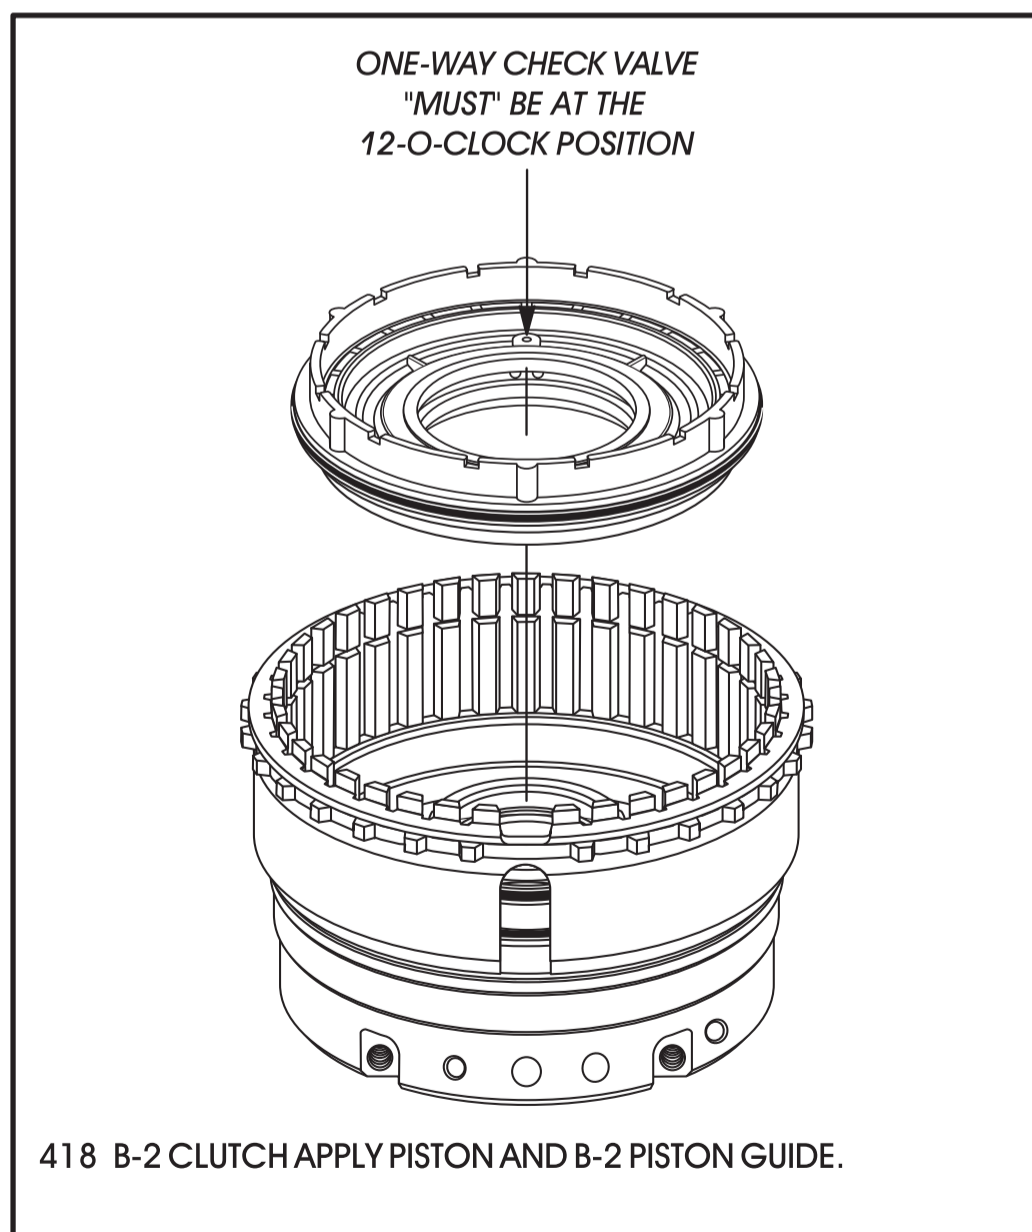

Figure 160
18. Install the B-2 apply piston with B-2 piston guide installed, as shown in Figure 160.
Note: 1-way check valve must be installed "exactly" at the 12-O-clock position and is shown in Figure 160.